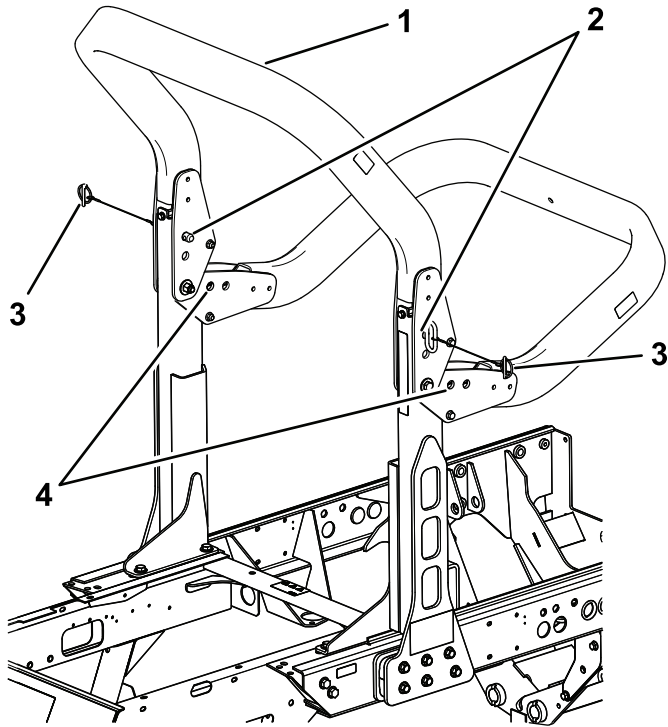

Figure 74
- Support the weight of the upper frame of the roll bar while removing the snap pins and clevis pins from the pivot brackets (Figure 74).